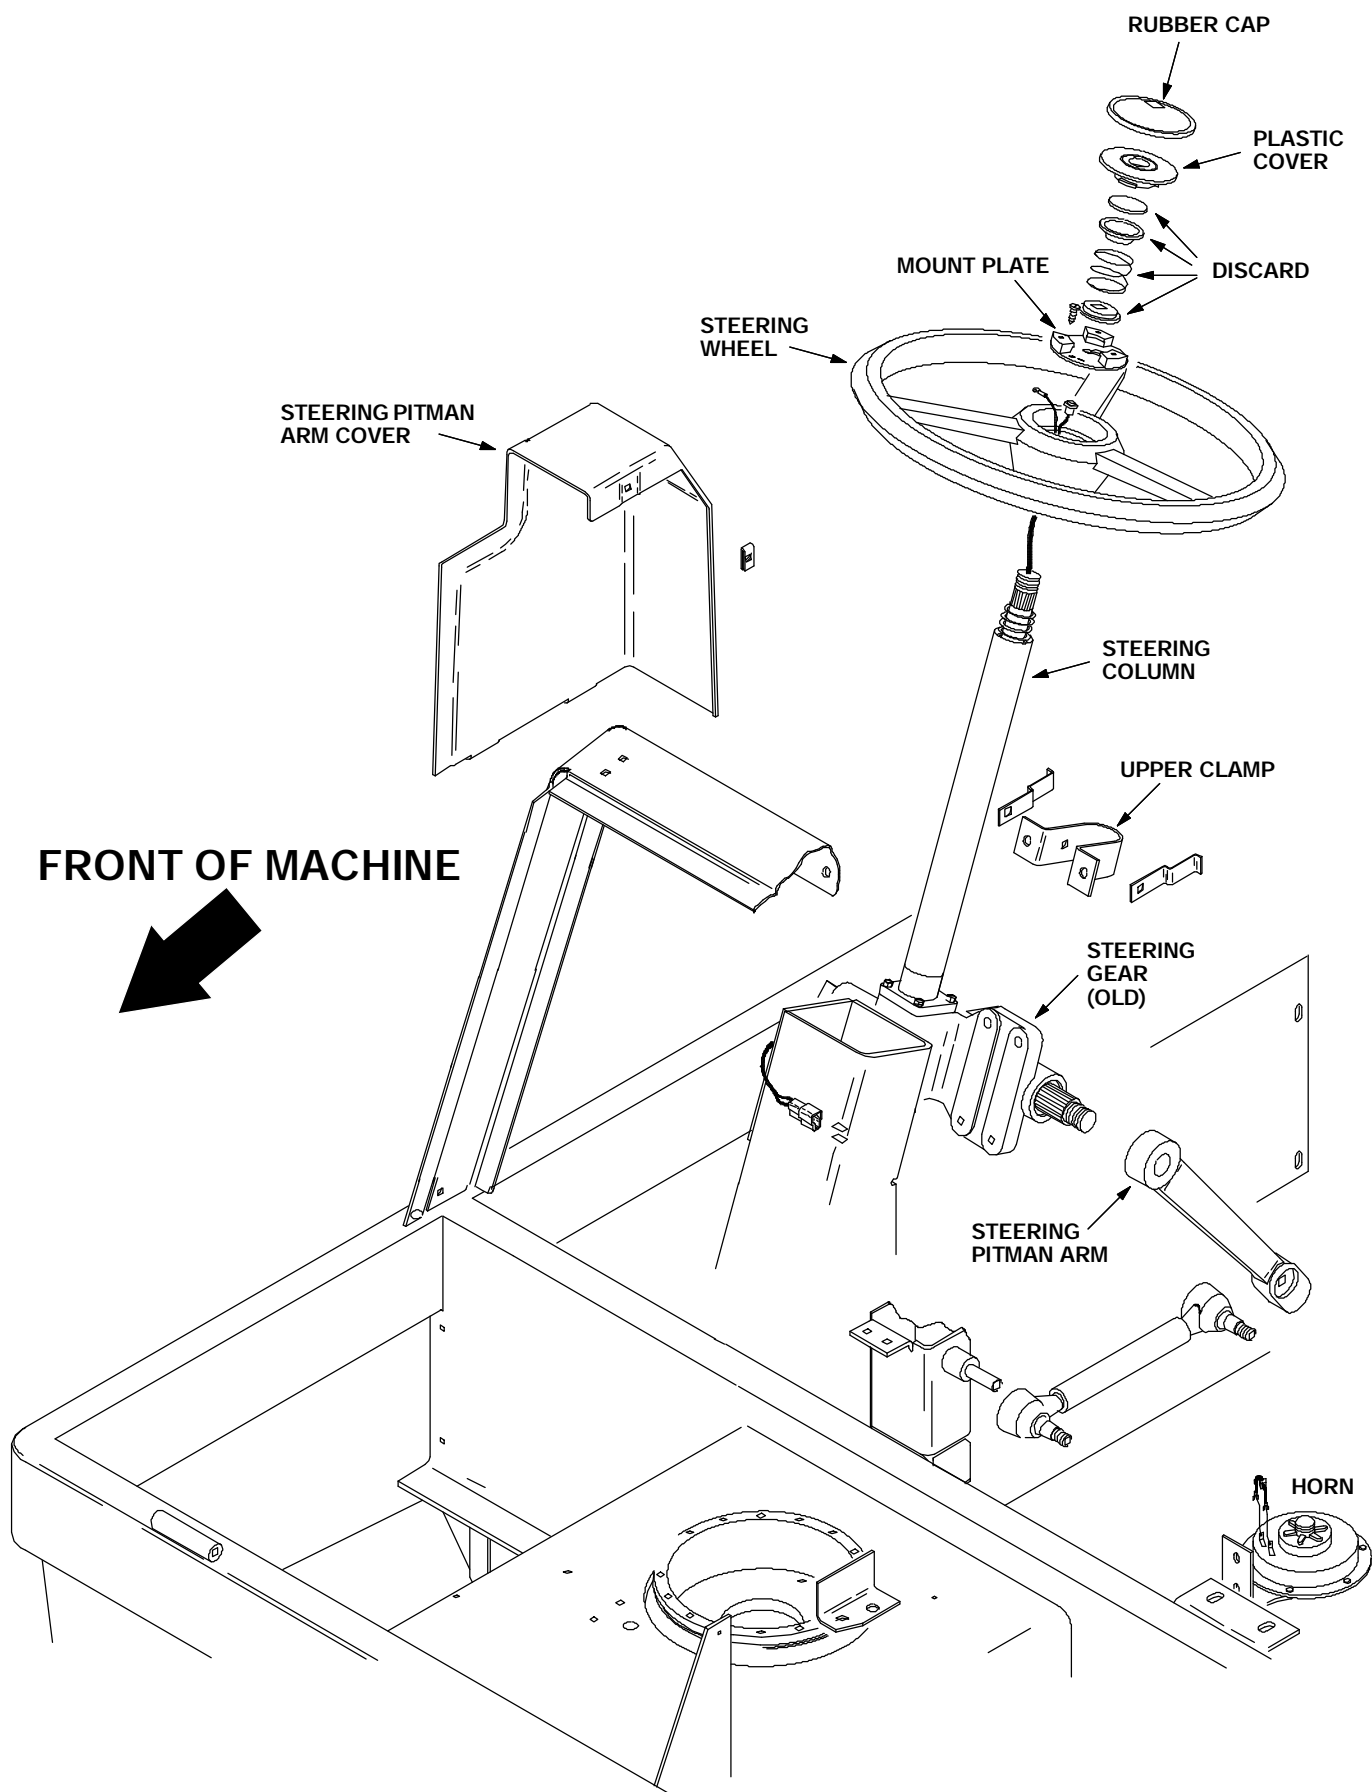

FIG. 3 - Steering Gear, Horn, And Pitman Arm
2. Turn the steering wheel all the way to the right. (Refer to FIG. 3)
3. Remove and retain the rubber cap, plastic cover, and mount plate from the steering wheel. (Refer to FIG. 3)
4. Remove and retain the nut holding the steering wheel to the column. Remove and retain the steering wheel. (Refer to FIG. 3)
5. Remove and discard the horn parts located in the steering wheel. (Refer to FIG. 3)
7. Remove the one hex screw holding the steering pitman arm cover to the machine. Remove the cover from the machine. (Refer to FIG. 3)
8. Remove the large nut from the steering gear where the pitman arm is connected. Use a 1-1/8 in. combination wrench. (Refer to FIG. 3)
9. Remove the pitman arm from the steering gear. Hit the pitman arm with a hammer in the area of the steering gear splines. (Refer to FIG. 3)
10. Remove and retain the upper clamp holding the steering column to the machine lintel. (Refer to FIG. 3)
11. Remove the four hex screws holding the bottom of the steering gear to the machine frame. Retain three of the hex screws and nuts. (Refer to FIG. 3)
12. Disconnect the horn wire harness from the main harness. (Refer to FIG. 3)
13. Remove and discard the old steering gear and column assembly. (Refer to FIG. 3)
5. Install the upper clamp on the new steering gear column and machine lintel (1). Firmly tighten the hardware. (Refer to FIG. 3)
9. Install the steering wheel on the new column (1). Install and firmly tighten the nut. (Refer to FIG. 3)
10. Reinstall the plastic cover and rubber cap in the steering wheel. (Refer to FIG. 3)
12. Remove the large nut and lock washer from the splines of the new steering gear (1). (Refer to FIG. 3)
13. Position the steering pitman arm on the spline of the new steering gear (1). (Refer to FIG. 3)
14. Reinstall the large nut and lock washer on the steering gear. Tighten very firmly. (Refer to FIG. 3)
15. Reinstall the steering pitman arm cover. Reinstall the one hex screw and nut. (Refer to FIG. 3)